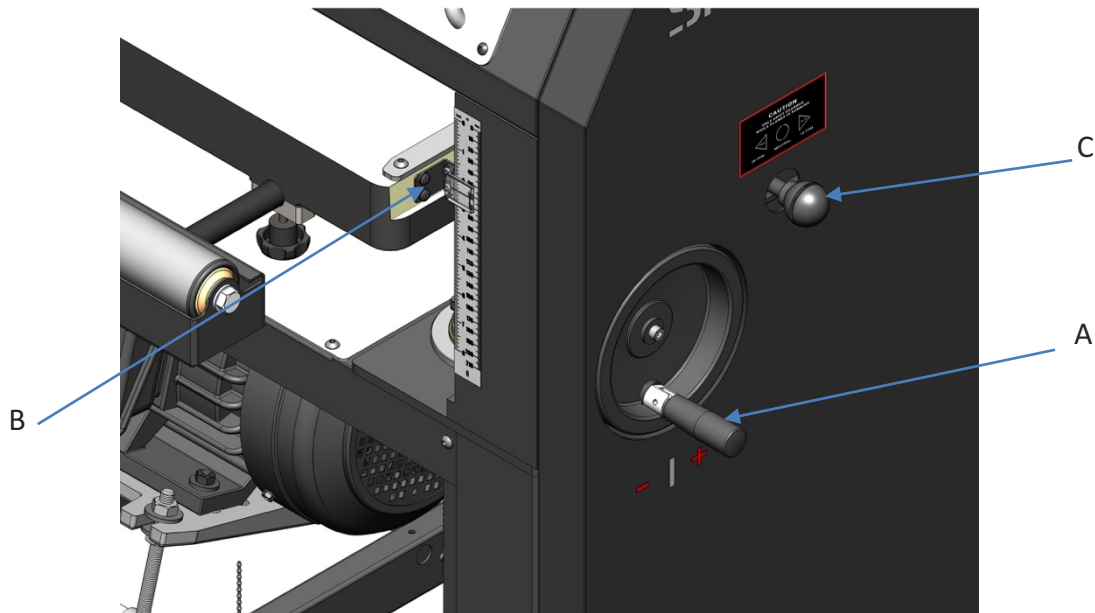

Figure 8: Thickness Scale Calibration
2. Use the Table Height Adjustment handle (Fig. 8, A) to raise the table until the infeed roller is approximately 1/16" (1.6mm) above the calibrating board.
8. Loosen the screws of the Thickness Scale pointer and adjust the pointer (Fig. 8, B) until it corresponds to the measured thickness and tighten the screws.
5. Adjust feed speed (Fig. 8, C) to desired speed (16 or 28 FPM), while planer is running.